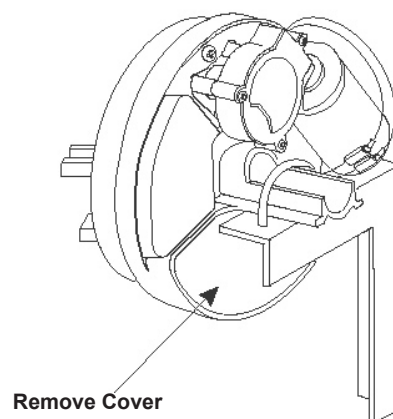

Fig. 9
- 2 Remove the Switch Cover (see Fig 9). Rotate the UP LIMIT CAM by hand in a clockwise direction until the cam clicks the open limit switch.
- 2 Remove the Switch Cover (see Fig 9). Rotate the UP LIMIT CAM by hand in an anticlockwise direction until the cam clicks the open limit switch.